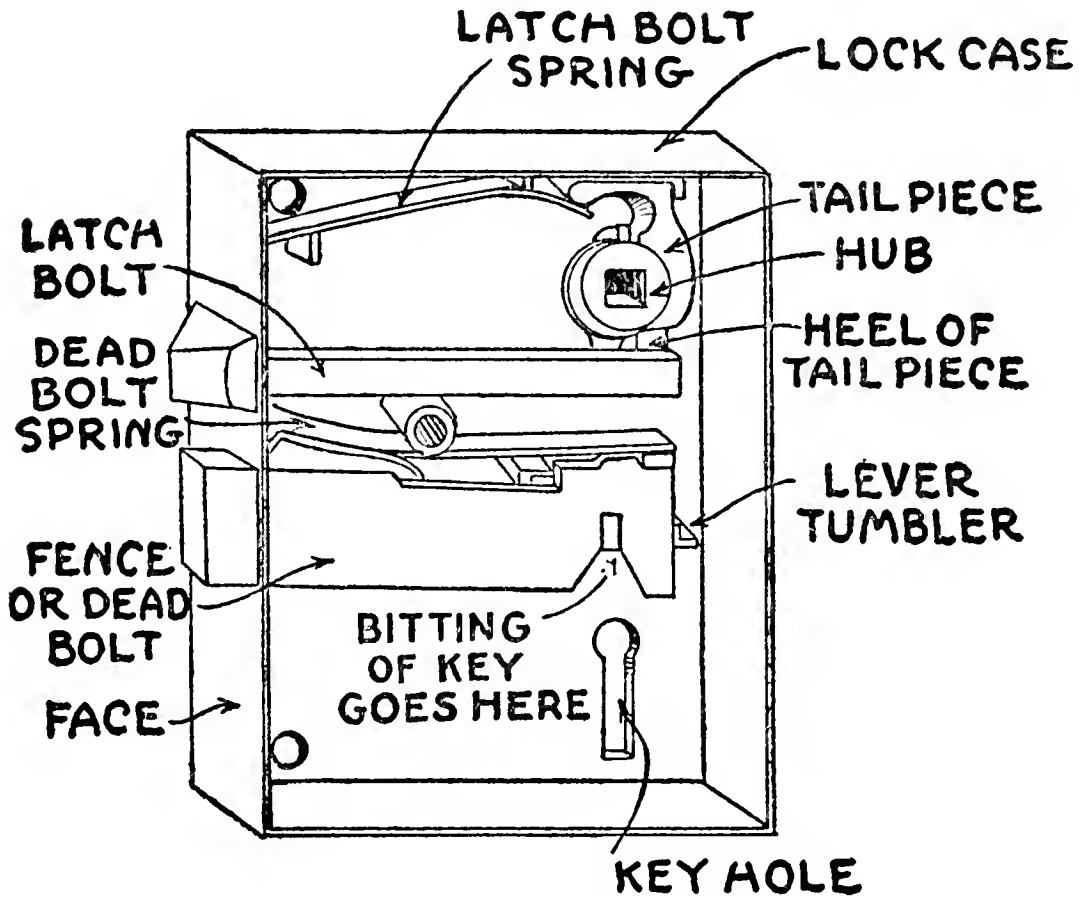

FIG. 17.—The inside of a door lock.
These ordinary door locks are of the *lever-tumbler* type, that is, the lock is worked by one or more pivoted levers, or tumblers, the construction of which is clearly shown in Fig. 17. The simplest form of this lock has only three parts, and these are (1) a bolt, called a dead-bolt; (2) a lever-tumbler, and (3) a spring. In some locks (A) the lever rests on top of the bolt, and in others (B) the bolt rests on top of the lever, and but for this small difference they are quite alike.